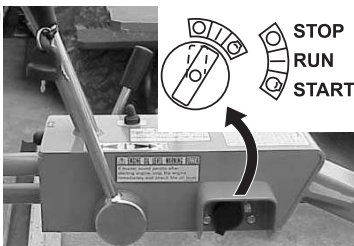

Figure 13. Starter Key (Run Position)
3. Insert the starter key into the key switch and turn it to the **RUN** position (Figure 13). The buzzer should sound at this time.